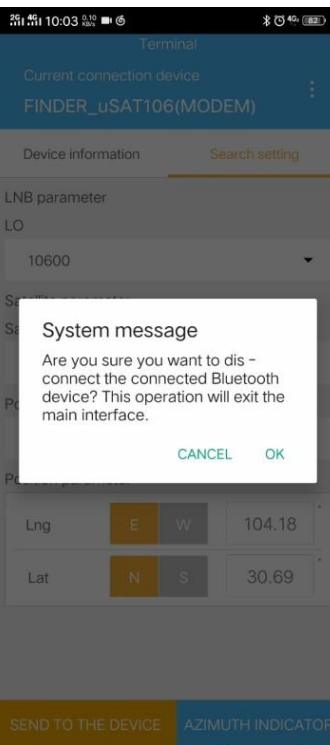

Figure 7-18
8. If you need to disconnect, click the three dots on the upper right corner and select "Disconnect device", then click the "Ok", as shown in Figure 7-18.
If there are target satellite, you just check the circle front the satellite, as shown in Figure 7-18.